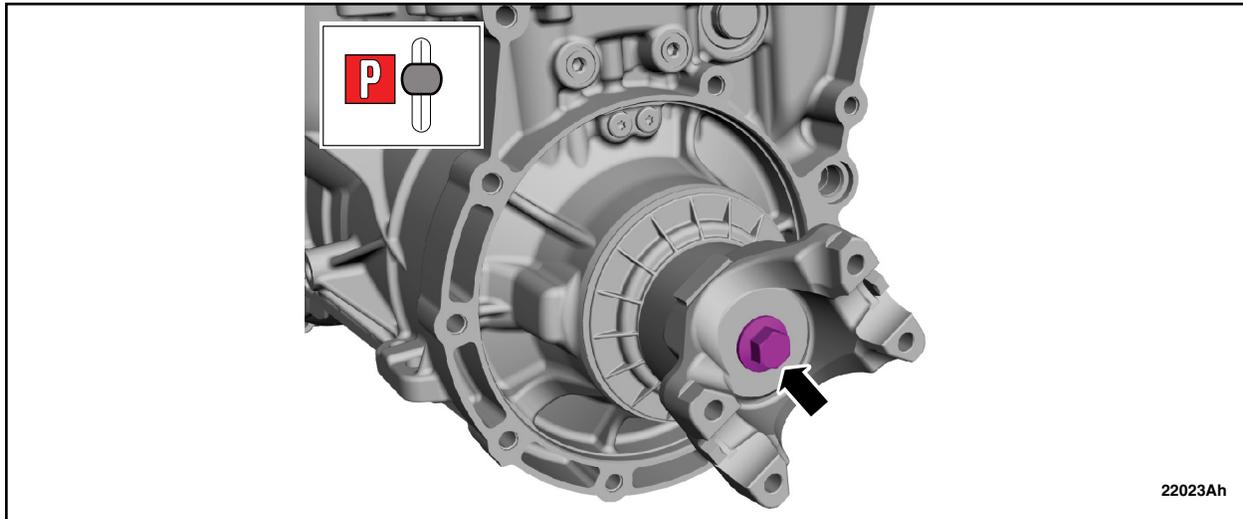

FIGURE 73
84. Rotate the manual control lever to P. and install and the output shaft flange bolt. See Figure 73.